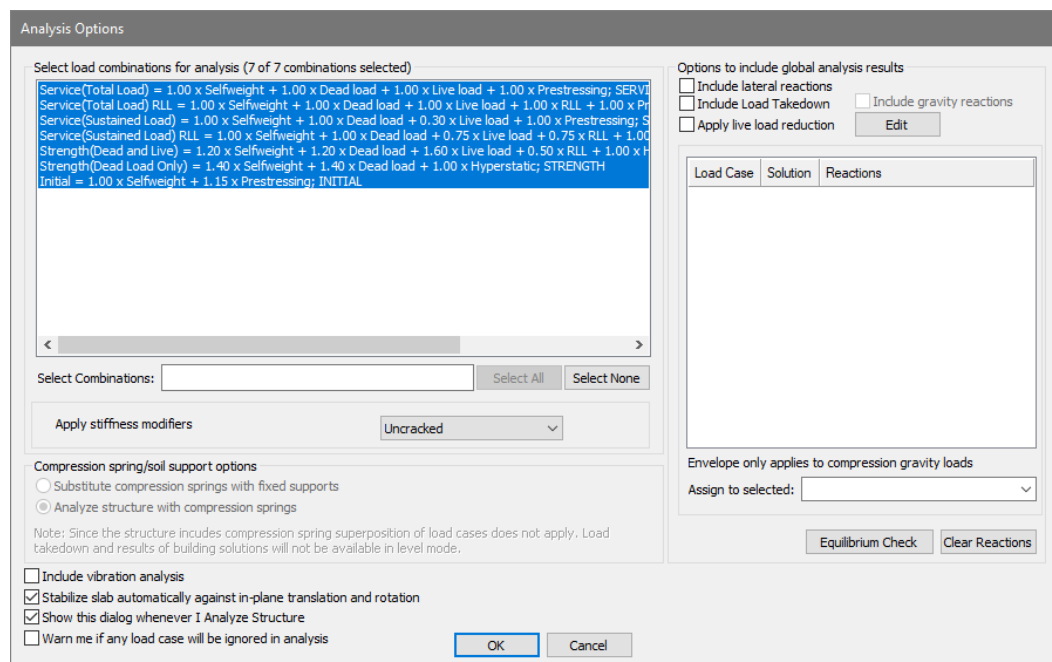

Figure 9-72
- Go to **Analysis** → **Analysis** and click the **Execute Analysis** icon, this will open the window shown in **FIGURE 9-72**.